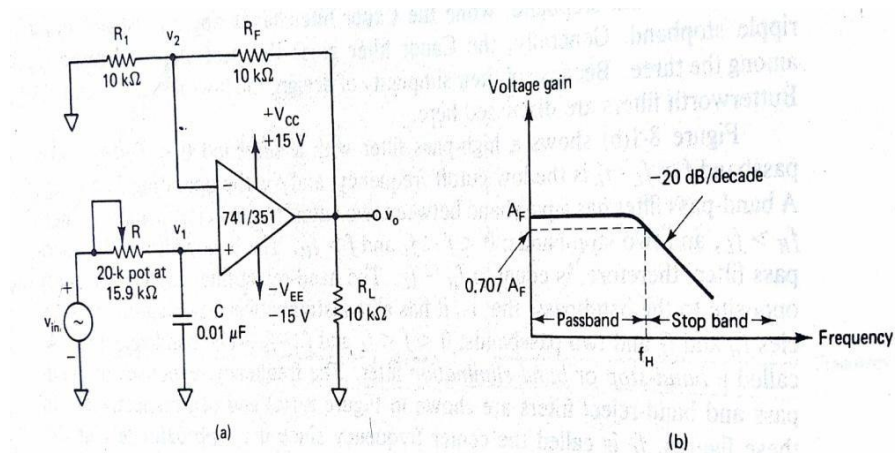

Figure 8-2 First-order low-pass Butterworth filter. (a) Circuit. (b) Frequency response.
- Figure 8-2 shows a first order low pass Butter worth filter that uses an RC network for filtering. Note that the op-amp is used in the non-inverting configuration, hence it does not load down the RC network. Resistors R_1 and R_f determine the gain of the filter.
- At f_H , the gain is $0.707 A_f$, and after f_H it decreases at a constant rate with an increase in frequency [see fig 8-2 b]